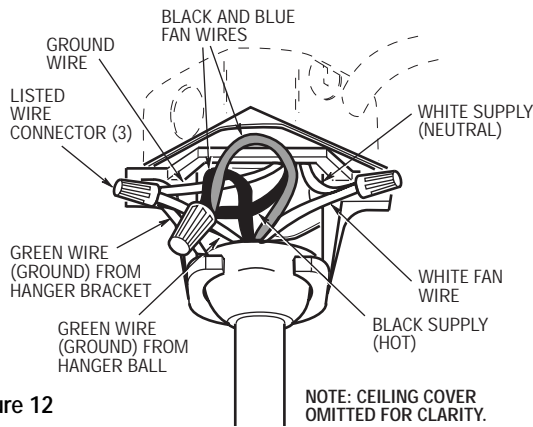

Figure 12
1. Connect the green grounding lead from the hanger ball and the green grounding lead from the hanger bracket to the grounding conductor of supply (this may be a bare wire or wire with green colored insulation). Securely connect wires with wire connectors supplied. (Figure 12.)
2. Securely connect the fan motor white wire to the supply white (neutral) wire using wire connector supplied (Figure 12). Securely connect the fan motor black wire and blue wire to the supply black (hot) wire using wire connector supplied (Figure 12). After connections have been made, turn leads upward and carefully push leads into the outlet box, with the white and green leads on one side of the outlet box and the black and blue leads on the other side of the outlet box.